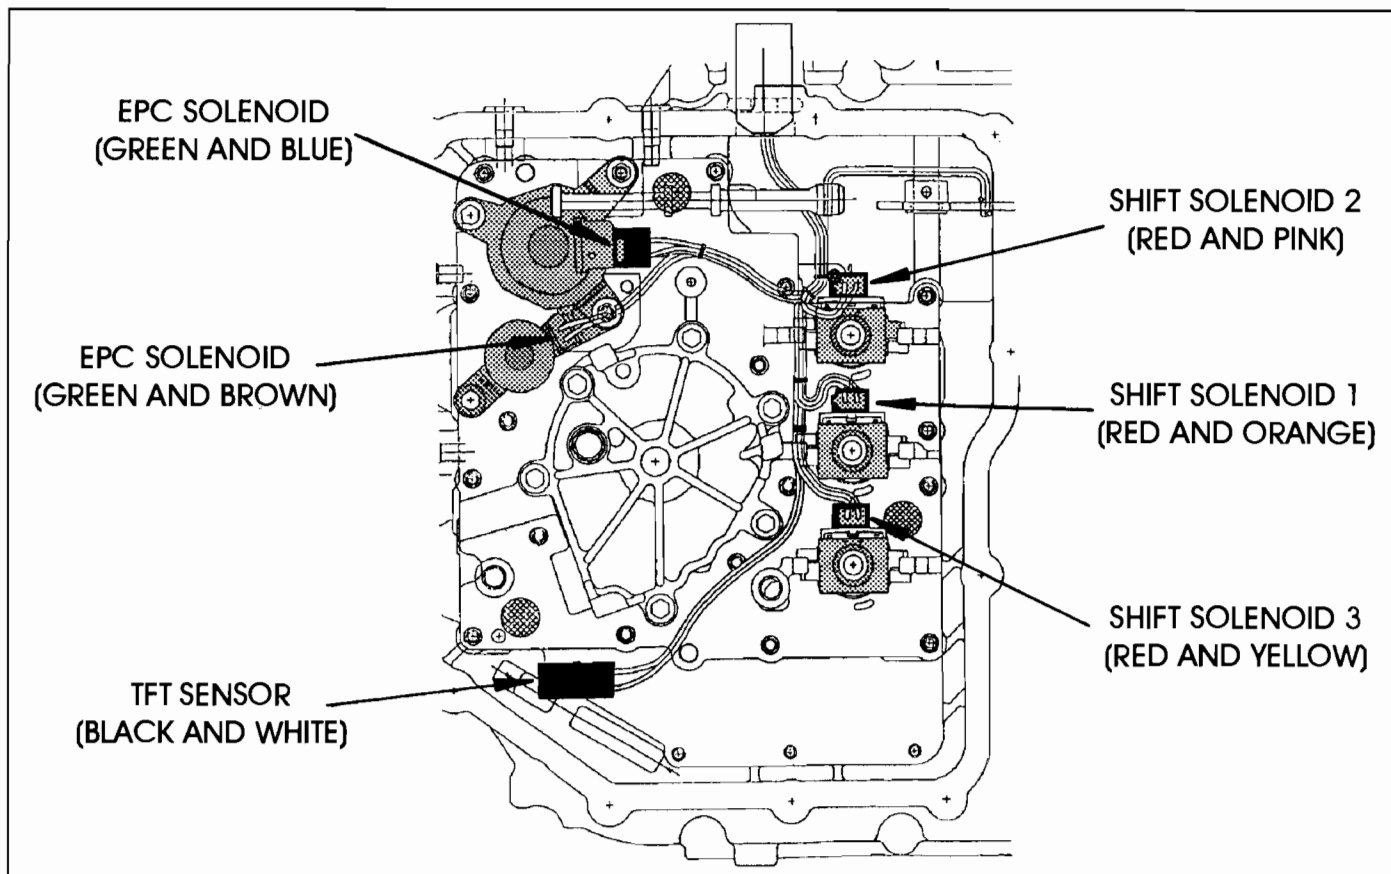
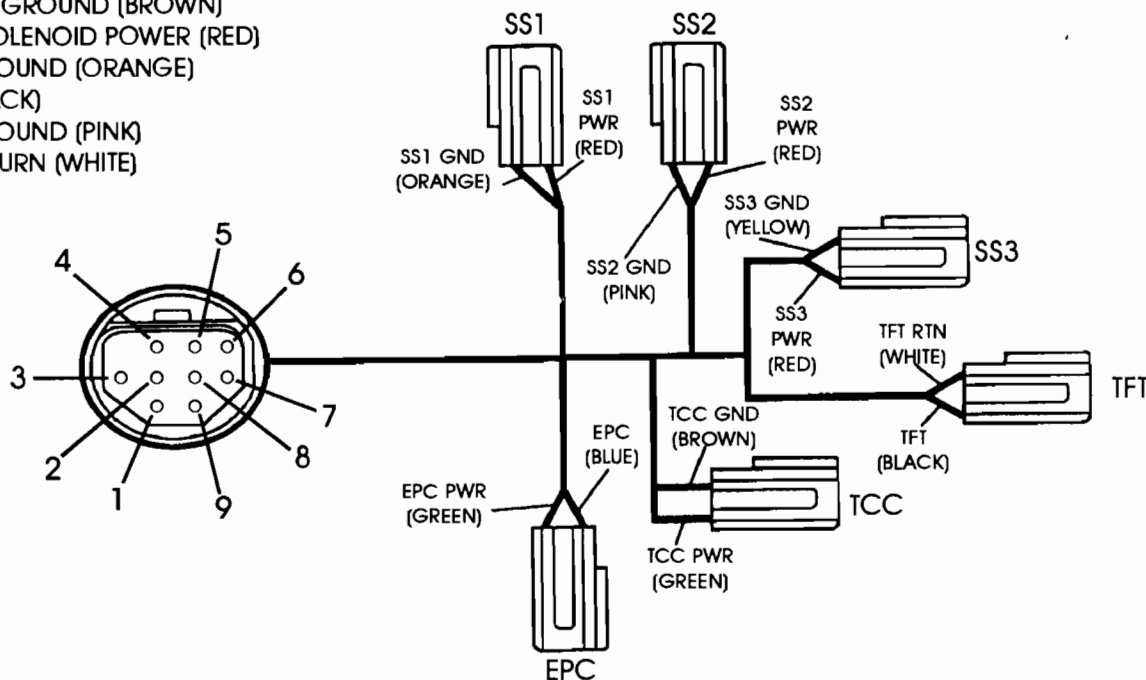

Figure 1
Figure 2
**CORRECTION:** Connect the internal wiring harness connectors to their proper solenoids, using the wire colors, as shown in Figure 1 and 2. Proper connection of solenoids can also be verified externally through the case connector using the Ohms chart in Figure 2.